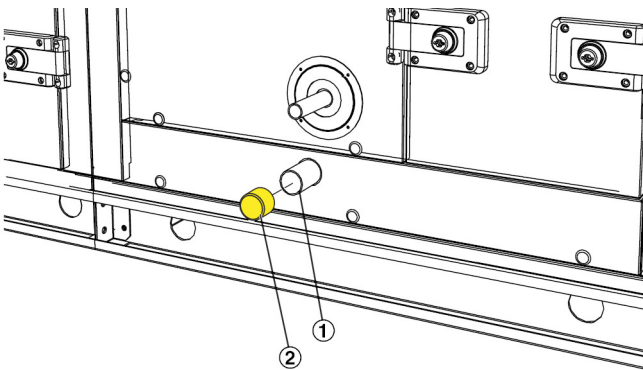

Fig. 29: Condensate drain
2. ▶ Remove the protective cap ( Fig. 29 /2) from each drain ( Fig. 29 /1) of the condensate drip tray.
4. ▶ Connect a drain trap to each condensate drain ( Fig. 29 /1).